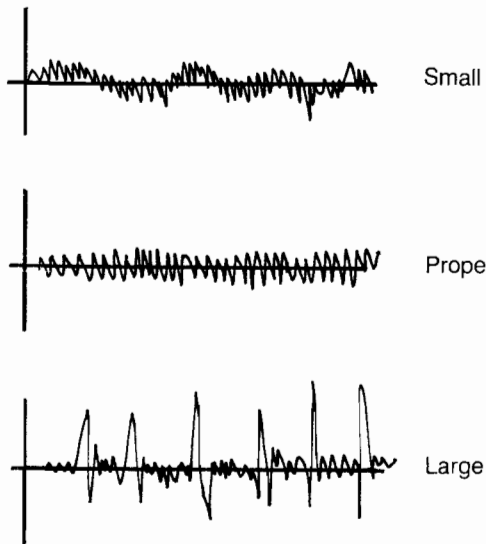

Figure 5
- Adjust VR105 so that oscilloscope indicate the figure shown in Figure 5.